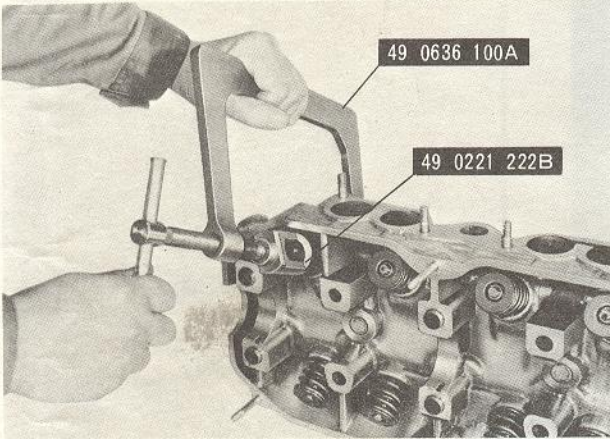

Fig. 1-7 Valve spring lifter
2. Use the **valve spring lifter** (49 0636 100A and 49 0221 222B) as shown in Fig. 1-7 and compress the valve springs.